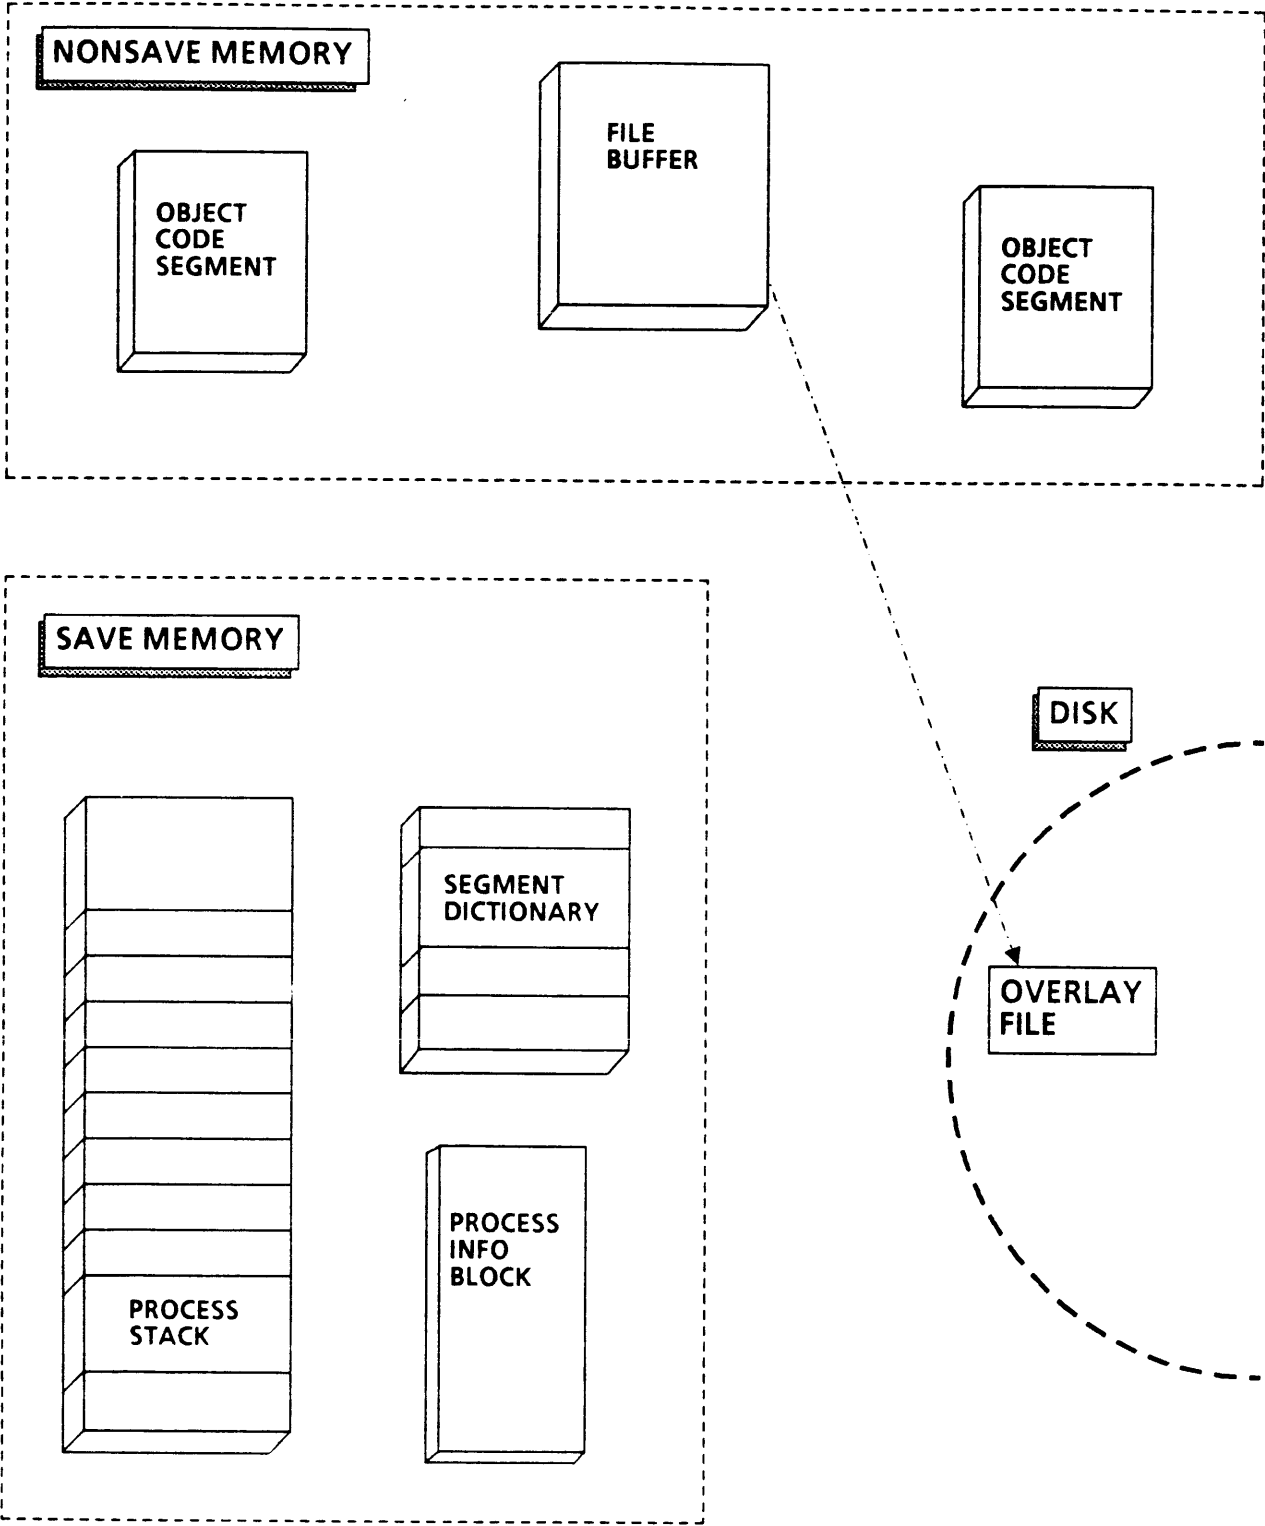

Figure 12-1 Save and Nonsave Memory
Data areas (for example, file buffers) can be overlaid to a pack as described above and shown in Figure 12-1.
**Save** memory areas cannot be overlaid, but are required to be resident in memory until the program associated with them ends. Process Stacks, Segment Dictionaries, and Process Information Blocks are examples of structures that are placed in save memory, as shown in Figure 12-1.